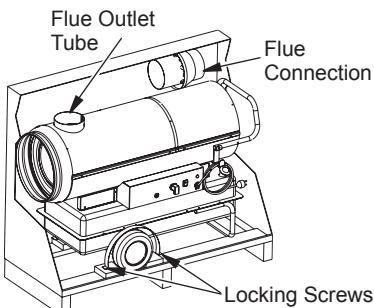

Figure 1 - Removing 160-IF from Carton
3. Remove the flue connection from carton (see Figure 1).
5. Unscrew the locking screws on wheel-lock straps (see Figure 1).